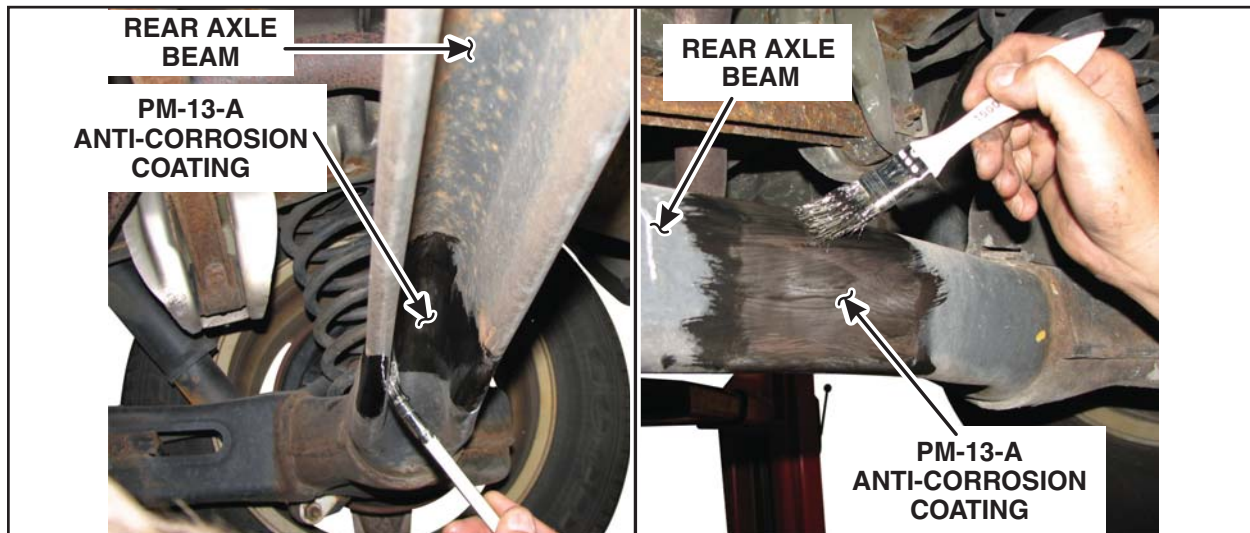

FIGURE 7
- a. If the rear axle beam does not have cracks or perforations (holes), apply PM-13-A Anti-Corrosion Coating to the cleaned areas. See Figure 7. Proceed to step 7.